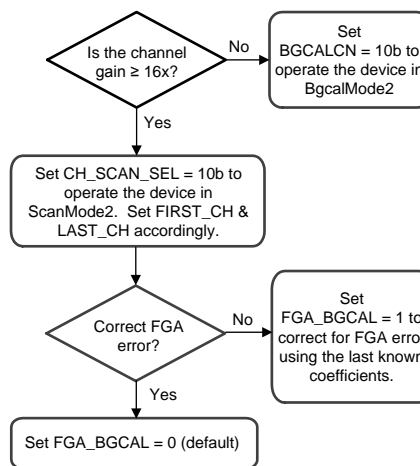

Figure 13. BgcalMode2 Register Settings
- Follow Figure 13 to set other appropriate registers when using this mode.